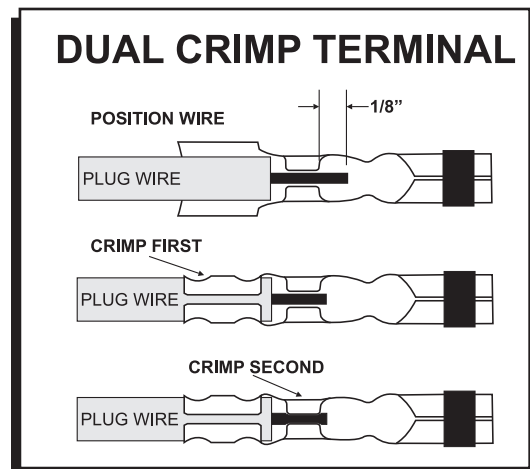

Figure 9 Crimping a Dual Crimp Terminal
1. After stripping the sleeve, position the wire in the terminal so the insulation protrudes about 1/8" beyond the insulation crimp tabs and the conductor extends about 1/8" past the conductor crimp tabs (Figure 9).